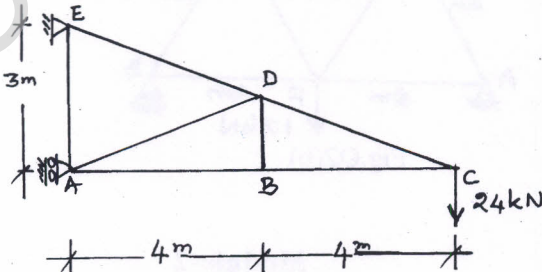

Fig.Q6(a)
- 6 a. For the truss shown in Fig.Q6(a), determine the vertical deflection at C by strain energy method. Take  $E = 210 \text{ GPa}$  and  $A = 5 \times 10^4 \text{ mm}^2$ .